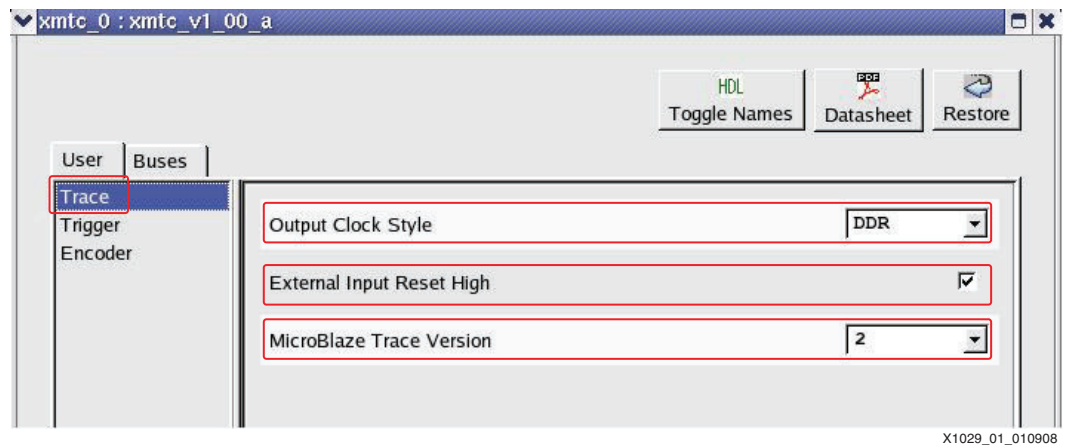

Figure 1: XMTC Configuration – Trace Interface
2. Right click on the **XMTC** instance, select **Configure IP**, then make the selections shown in Figure 1.